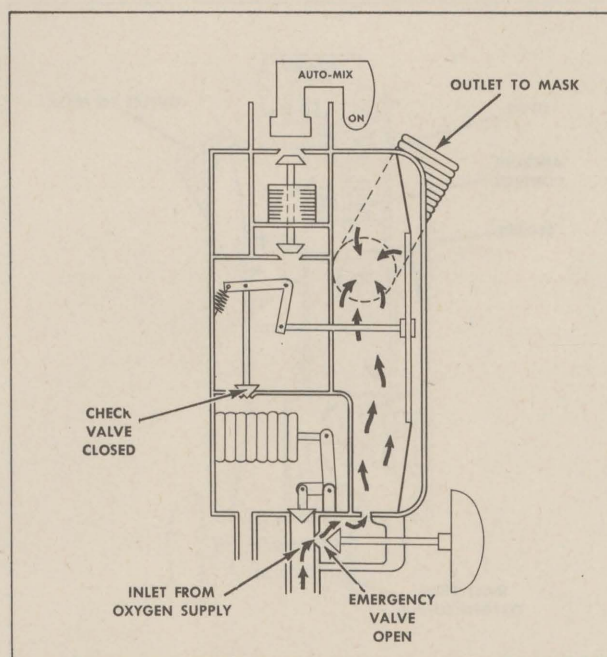

Figure 6—Diagram of Operation of Regulator Using "Emergency Valve"
a. **DESCRIPTION.**—The Emergency valve, when turned on, provides a *continuous flow of oxygen into the mask* (see figure 6). It is an emergency device and